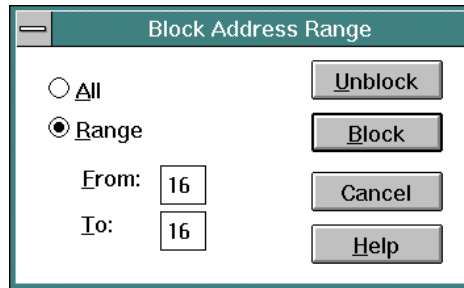

Figure 151. Block Address Range Dialog Box
- Set the attribute for a range of port addresses from the *Block Address Range* dialog box (Figure 151). Open the dialog box by selecting the *Block Range* option from the *Edit* menu or simultaneously pressing the **Ctrl** and **R** keys. Click the *Range* radio button, enter *From* and *To* port address values, and click the *Block* button.